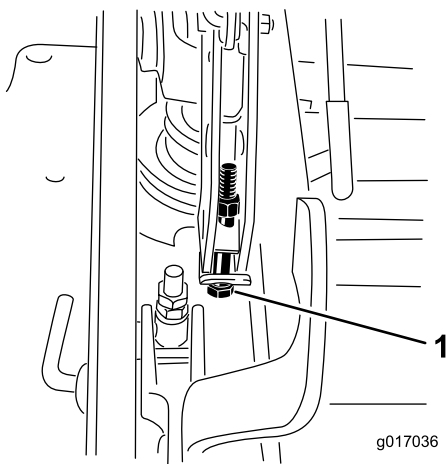

Figure 102
13. If the deck is too low, tighten the single-point adjustment bolt by rotating it clockwise. If the deck is too high, loosen the single point adjustment bolt by rotating it counterclockwise (Figure 102).
14. Tighten the 2 bolts at the bottom of the height-of-cut plate (Figure 102).